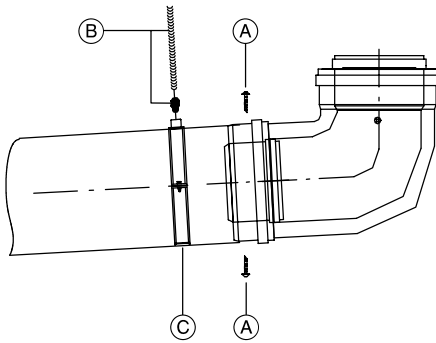
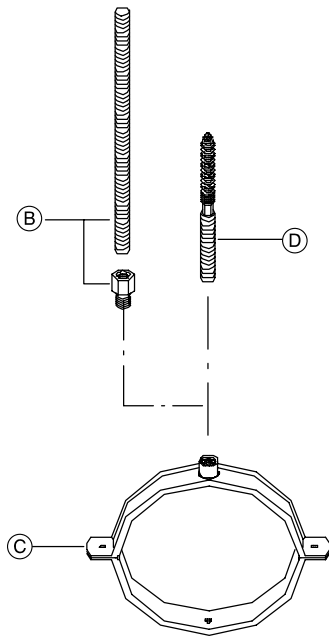

Fig. 25
Fig. 26
In addition to the support types listed above Viessmann offers mounting clips (see © fig. 25 and fig. 26) which can be used in conjunction with the above support types to support the weight of the venting system. Please contact Viessmann to order.
Vertical vent systems with horizontal sections must have the joints in these sections secured with supplied sheet metal screws (A) (see fig. 25) to prevent the system from sagging.
- maximum distance of 3 1/4"/82.5 mm (see fig. 26).
If a longer support system is required use brass adaptors M8 x 5/16" (supplied) with 5/16" all-threaded rods (B) (field supplied) (see fig. 26).